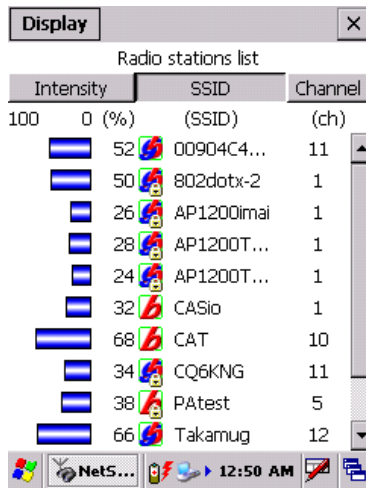

Figure 5.29
1. Initiate **NetSearch** tool by navigating to **Programs** → **Communication** → **NetSearch**. Figure 5.29 displays a list of WLAN stations.